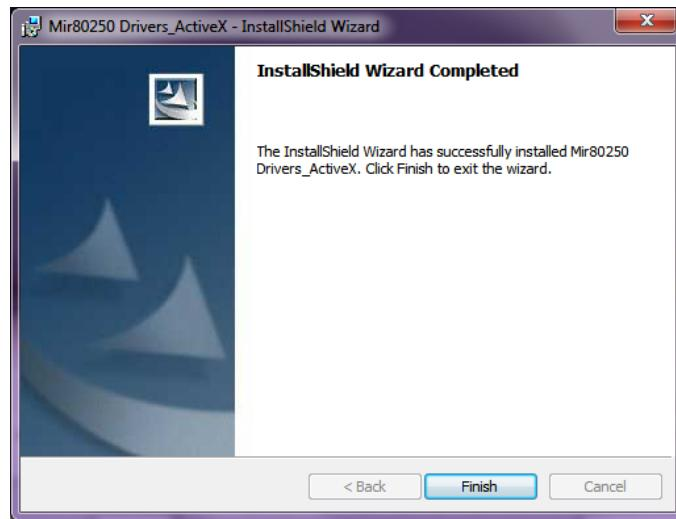

Figure 16: Active X Installation Complete
- When the installation is complete, the screen shown in Figure 16 will appear. Click "Finish".
21. When the installation is complete, the screen shown in Figure 16 will appear. Click "Finish".